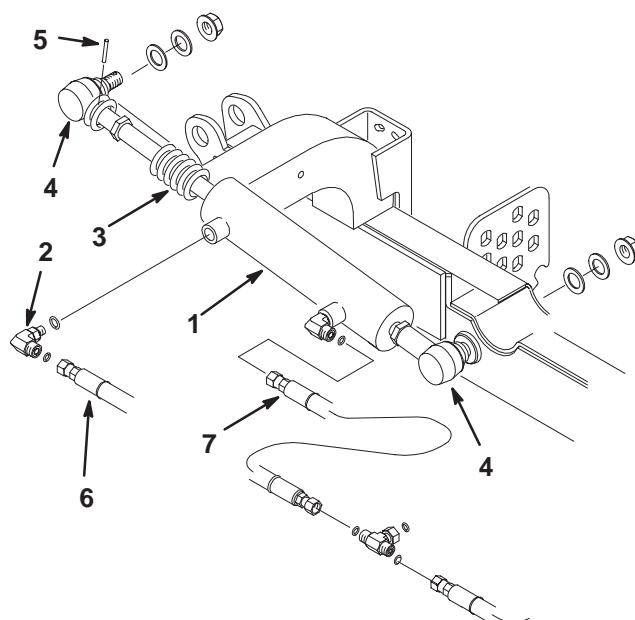

Figure 2
11. Install the previously removed 90° fitting w/O-ring to the new cylinder (Fig. 2). The fitting is to be positioned in the same direction as the permanent fitting is on cylinder body. Torque fitting to 34-36 ft-lb.
12. Insert the compression spring onto the cylinder rod and thread the ball joint all the way onto cylinder rod (Fig. 2). The ball joint is to face away from the fittings. Tighten the jam nut.
13. Thread the other ball joint all the way into cylinder body (Fig. 2). The ball joint is to face away from the fittings. Do not tighten the jam nut at this time.
14. Press the roll pin into the ball joint (Fig. 2).
15. Rotate the compression spring onto the roll pin in the ball joint (Fig. 2).
17. Secure the ball joints to the deck frames with the washers and nuts previously removed (Fig. 2). Torque the nuts to 152–198 ft–lb.
18. Mount the existing hose to the 90° fitting on the cylinder (Fig. 2). Torque the fitting to 24–29 ft–lb.
19. Mount the new hose to the tee fitting and the permanent 90° fitting on the cylinder (Fig. 2). Torque the fitting to 24–29 ft–lb.